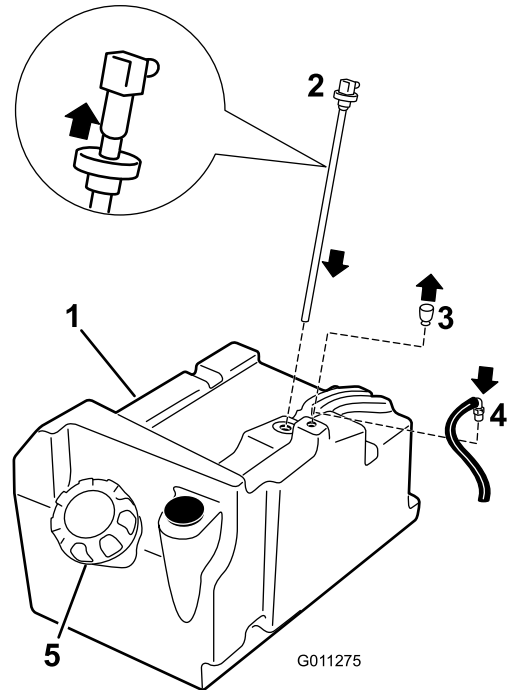

Figure 1
1. Locate the gas tank in loose parts. Remove the air vent and discard (Figure 1).
2. Install the rubber grommet over the fuel line. Install the fuel line assembly to the gas tank (Figure 1).
3. Install the hose barb to the breather hose. Install the breather hose assembly to the gas tank (Figure 1).